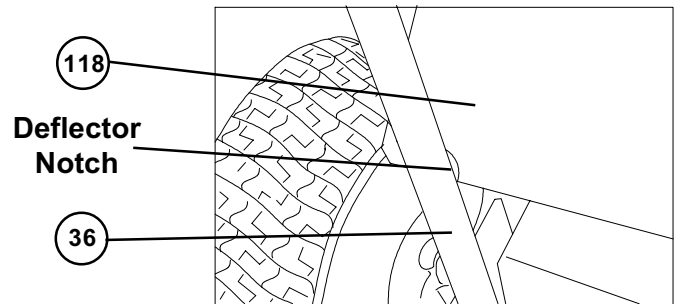

Fig. 3
3. EXHAUST ASSY. Place flange gasket (item 35) onto housing of main unit and assemble **exhaust elbow** to housing using screws (item 117), washers (item 140) and lock nuts (item 132), provided in parts bag. The rear hole mounts deflector (item 118), using screw assembly (already attached to deflector) and lock nut (item 132). Bend opposite end of deflector down until notch in rear of deflector catches onto handle brace (item 36) (see figure 3).